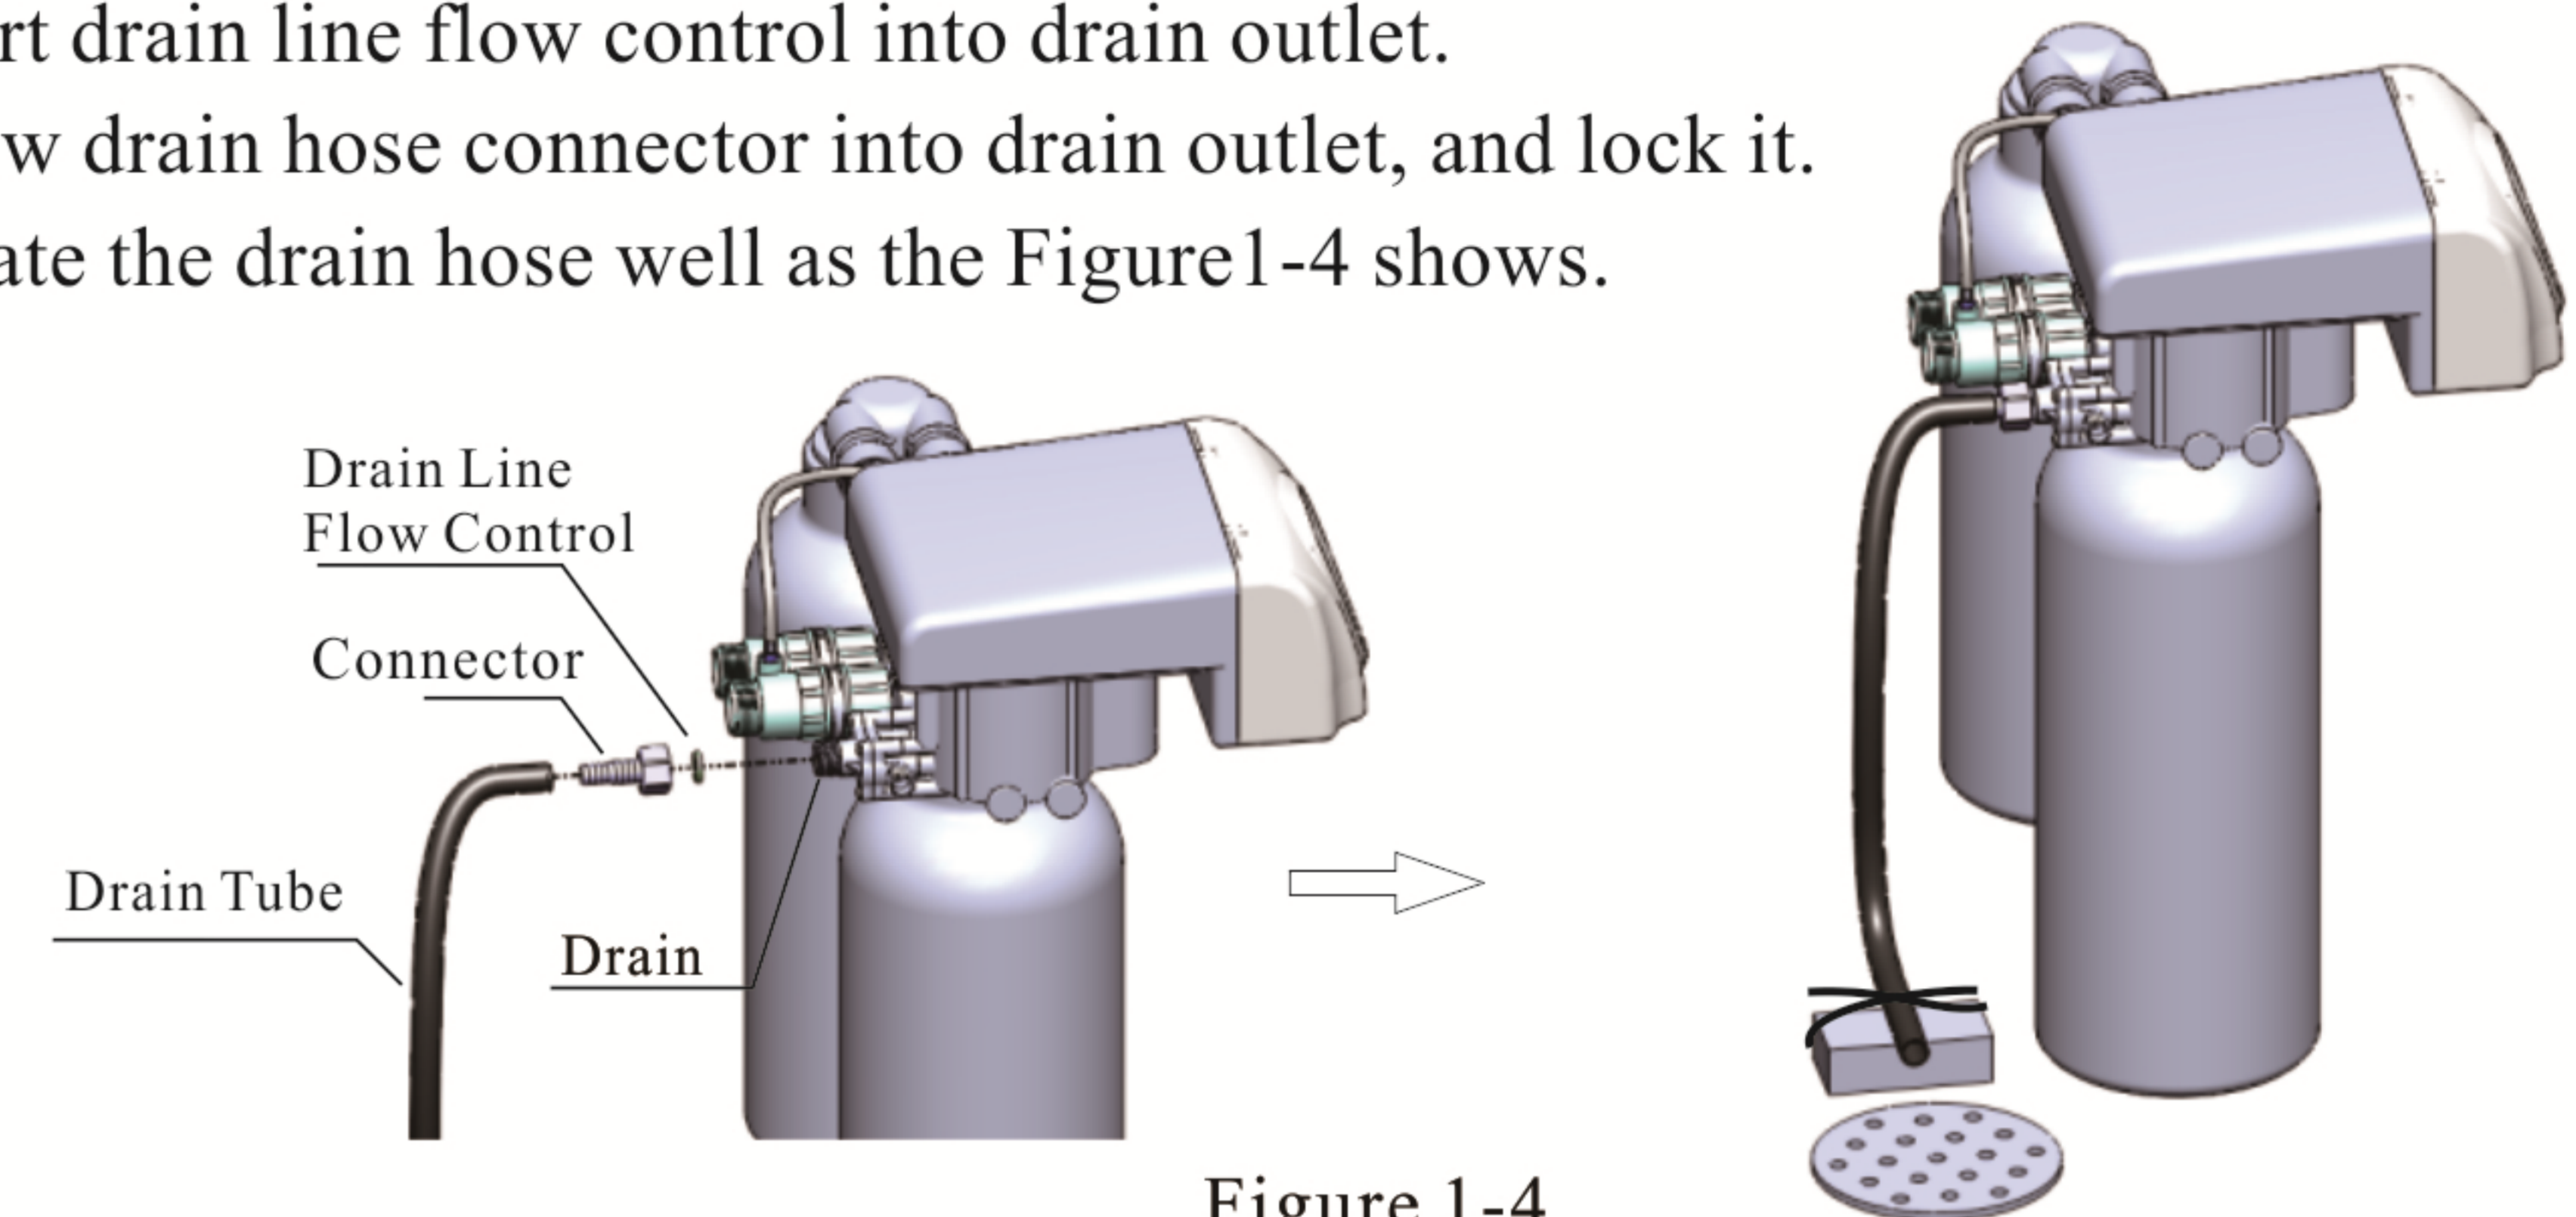

Figure 1-4
⑤ Install drain pipeline
- As the Figure 1-4 shows, slide the drain hose connector into drain outlet.
- Locate the drain hose well as the Figure 1-4 shows.
- Be sure not connect drain with sewer directly, and leave a certain space between them, to avoid wastewater being absorbed to the water treatment equipment, such as showed in the Figure 1-4.